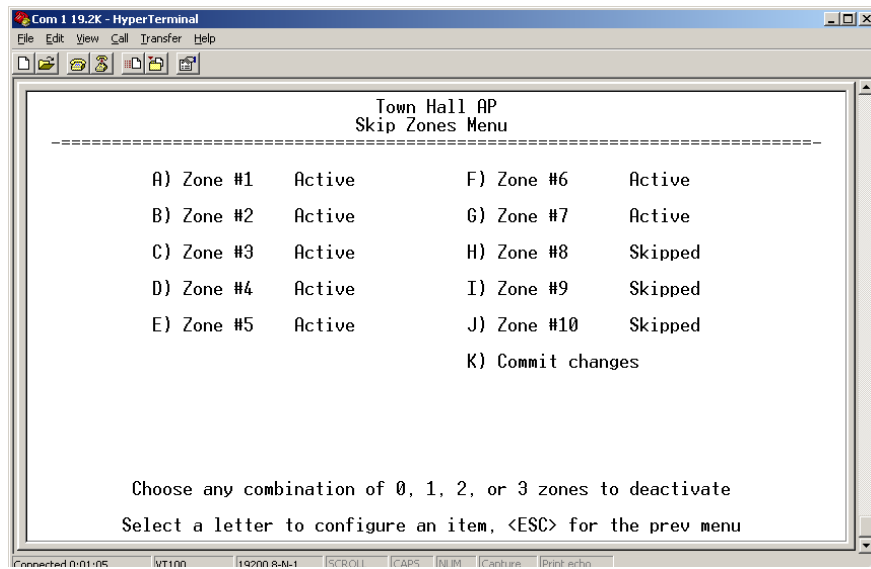

Figure 3-22. Skip Zone Options Submenu
- **Skip Zones** (*Does not apply to ESS-II. Editable at AP Only.*)—This selection brings up a submenu (Figure 3-22) that displays the current utilization of zones. Each zone consists of eight RF channels. In some instances there may be a part of the spectrum used by another system, that results in “continuous” or “persistent” interference to your system. To alleviate this form of interference, the transceiver may be programmed to “block out” affected portions of the spectrum using the Skip Zones Menu.
Figure 3-22 displays the utilization of 10 zones, each having eight RF operating frequencies. Zones can be toggled between **Active** and **Skipped** at Access Point units by first keying in the letter of the zone to be changed, and then pressing the spacebar to toggle between the two options for each zone. Select the **Commit Changes** menu item to implement changes. These changes will be forwarded to all units in the network through the Access Point’s beacon signal.